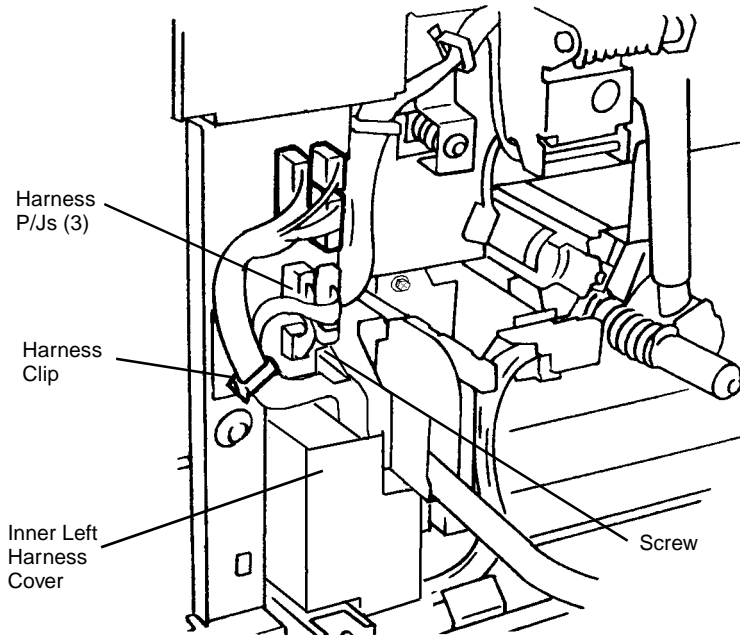

Figure 2 Disconnecting Developer Harnesses
11. Disconnect Developer Housing Harnesses (Figure 2).
- b. Disconnect Harness P/J's (3).